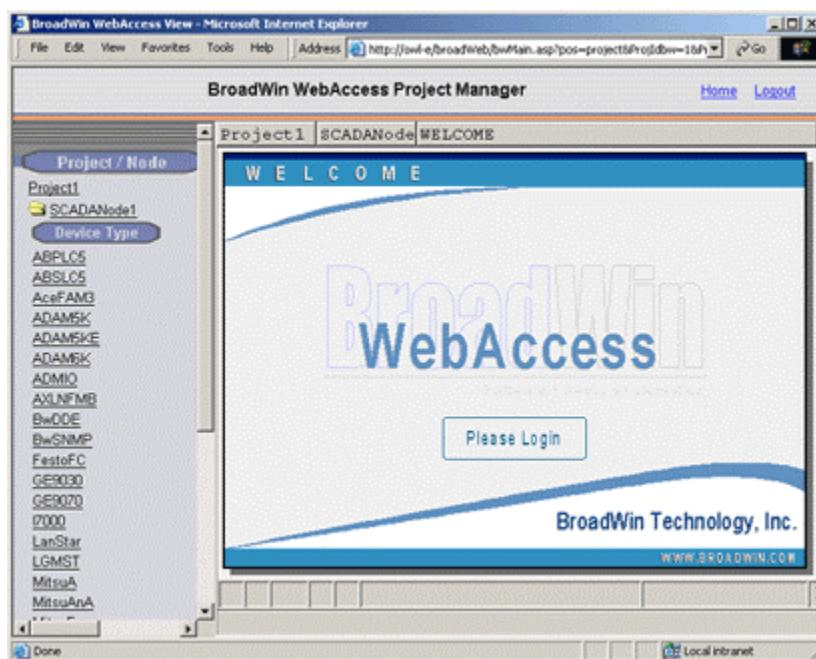

Figure 4-39 - Login page, start VIEW – from Project Manager
10. Welcome to WebAccess Login appears (Figure 4-39) if the Client is installed.